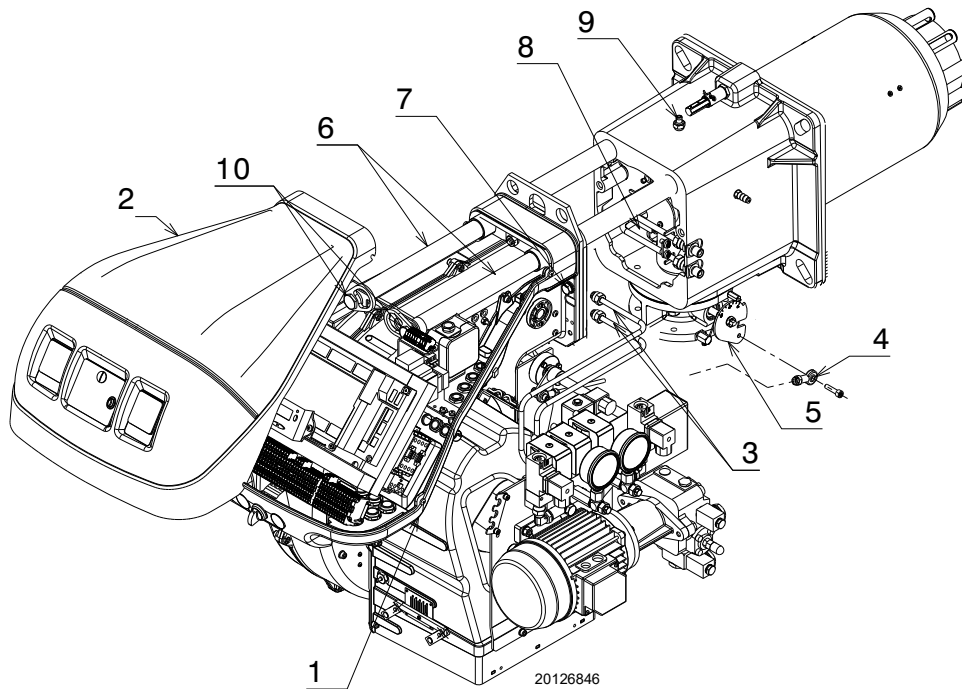

Fig. 56
- Loosen the 4 screws 1)(Fig. 56) and remove the hood 2).
- Disassemble the two extensions from the slide bars 6)(Fig. 56).